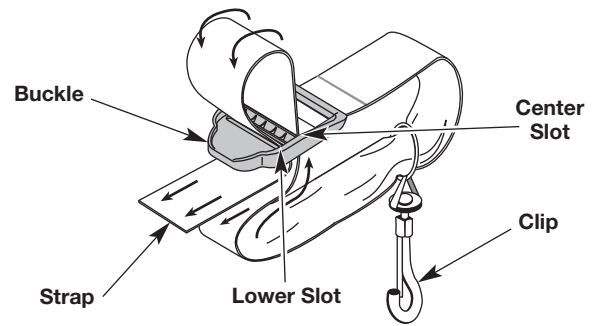

Fig. 4
1. Push the strap up through the center slot in the buckle (Fig. 4).
2. Bend the strap over and push it down through the lower slot in the buckle (Fig. 4).